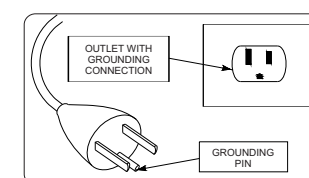

FIGURE 6 - FOR MODELS MS3 AND MSV 6
- The item 16 is supplied for the models MS 3/30, MSV 6/30 and MSV 6/50 with plug 2P + GR (ground) see Figure 6. For the models MSV 12/175 and MSV 18/250 without the plug, its must be connected to electrical source (electrical starter and fusible) or according with the electrical laws for each country where the compressor will be installed. For the models CSV 15/220, CSV 15/250, CSV 20/220 and CSV 20/250 is responsibility of the user the installation of the compressor to electrical source, including the electrical starter.
- For your safety (see text, item 4.7, and Figure 6, Grounding Instructions), wire 16 is supplied with a plug for input and grounding.